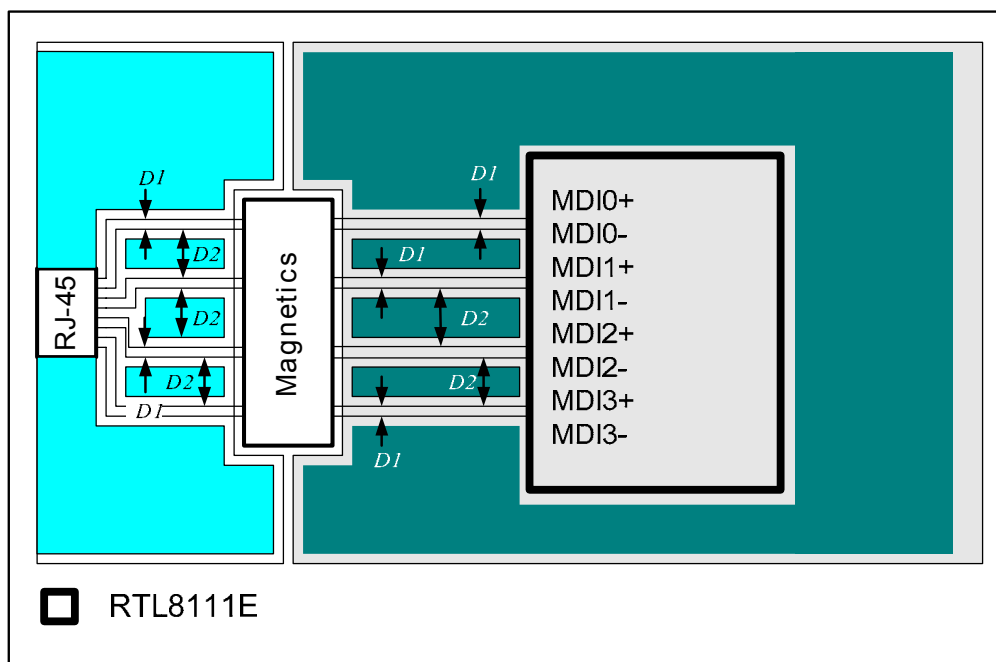

Figure 2. Signal & Trace Routing
- Traces routed from the RTL8111E to the 10/100/1000M magnetics, and to the RJ-45 connector, should be as short as possible. The 12cm maximum length between the RTL8111E and magnetics is achievable only when there is no interference. It is also very important to keep all four differential pair signal traces (MDI0+/-, MDI1+/-, MDI2+/-, MDI3+/-) equal in length. The two traces of each pair should be placed close to each other (D1) since they are differential pair signals to each other and provide a strong canceling effect on noise. The width of D1 should be calculated to have 100Ω impedance (Figure 2).
- We suggest that there should be more than 30 mil spacing between different differential pairs to minimize crosstalk coupled from other pairs (D2 in Figure 2). In addition, Ground Plane shielding can be used to separate all four signal pairs. However, a good layout should avoid the following situations: